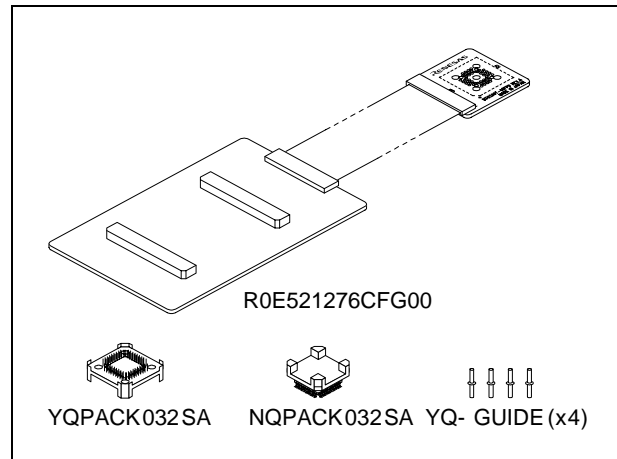

Figure 1 Package components of the R0E521276CFG00
2. Package Components (See Figure 1)